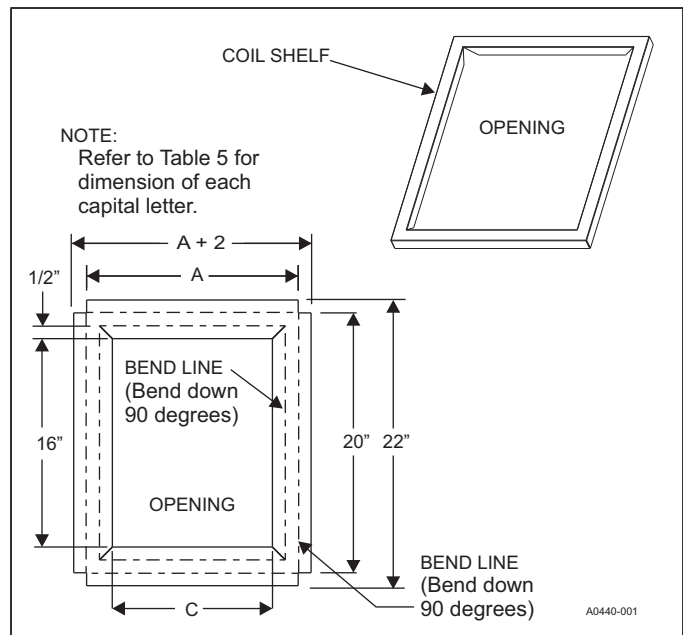

FIGURE 12: Coil Shelf
6. Fabricate a coil shelf using a flat piece of metal illustrated in Figure 12.